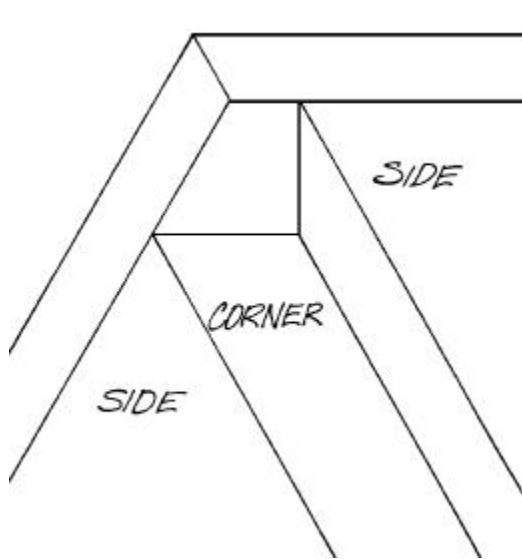
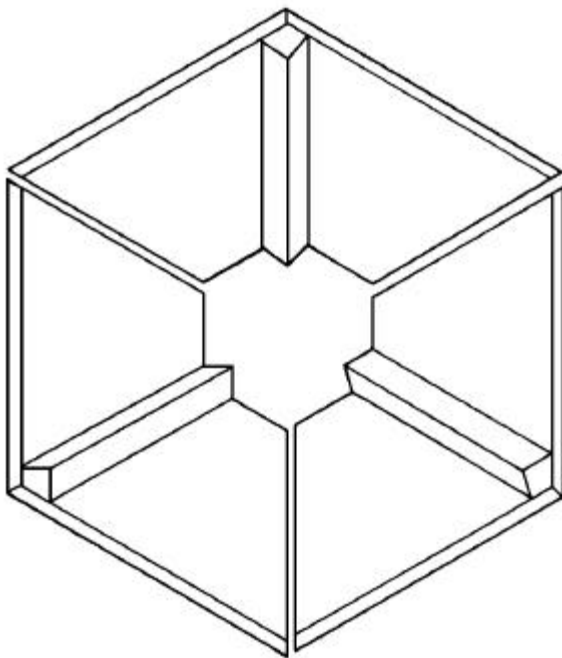

Figure 6
Figure 7
1. It's easiest to build the well base in three sections with each section composed of two Sides (A) and one corner (G). Attach two Side pieces by gluing the beveled edges together; secure the joint by nailing through the Sides into the beveled edges of a Corner piece. Refer to *Figure 6*.
2. Follow the procedures in Step 1 to build two more identical sections, using all the remaining Side pieces (A) and two of the remaining Corner pieces (G).
3. To finish the base, join the three sections using the remaining Corner piece as shown in *Figure 7*. Glue and nail each joint.